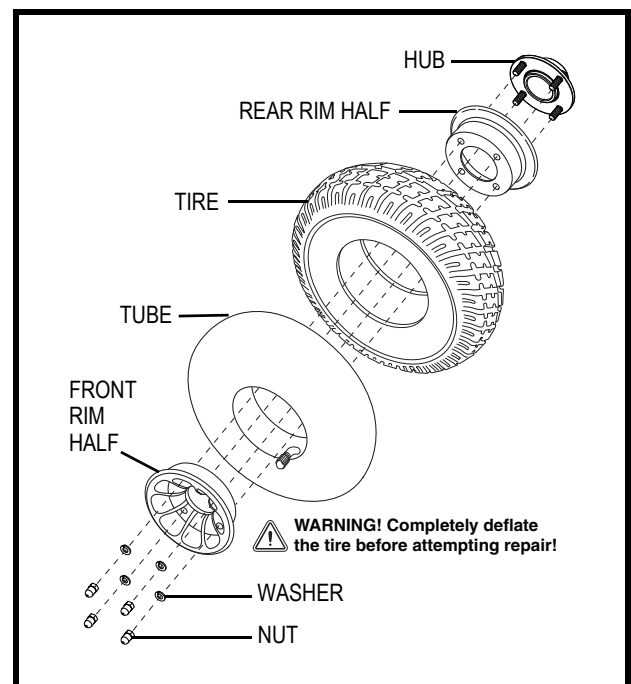

Figure 26. Drive Wheel Assembly
6. Remove the nuts and washers and separate the rim halves. **See figure 26.**